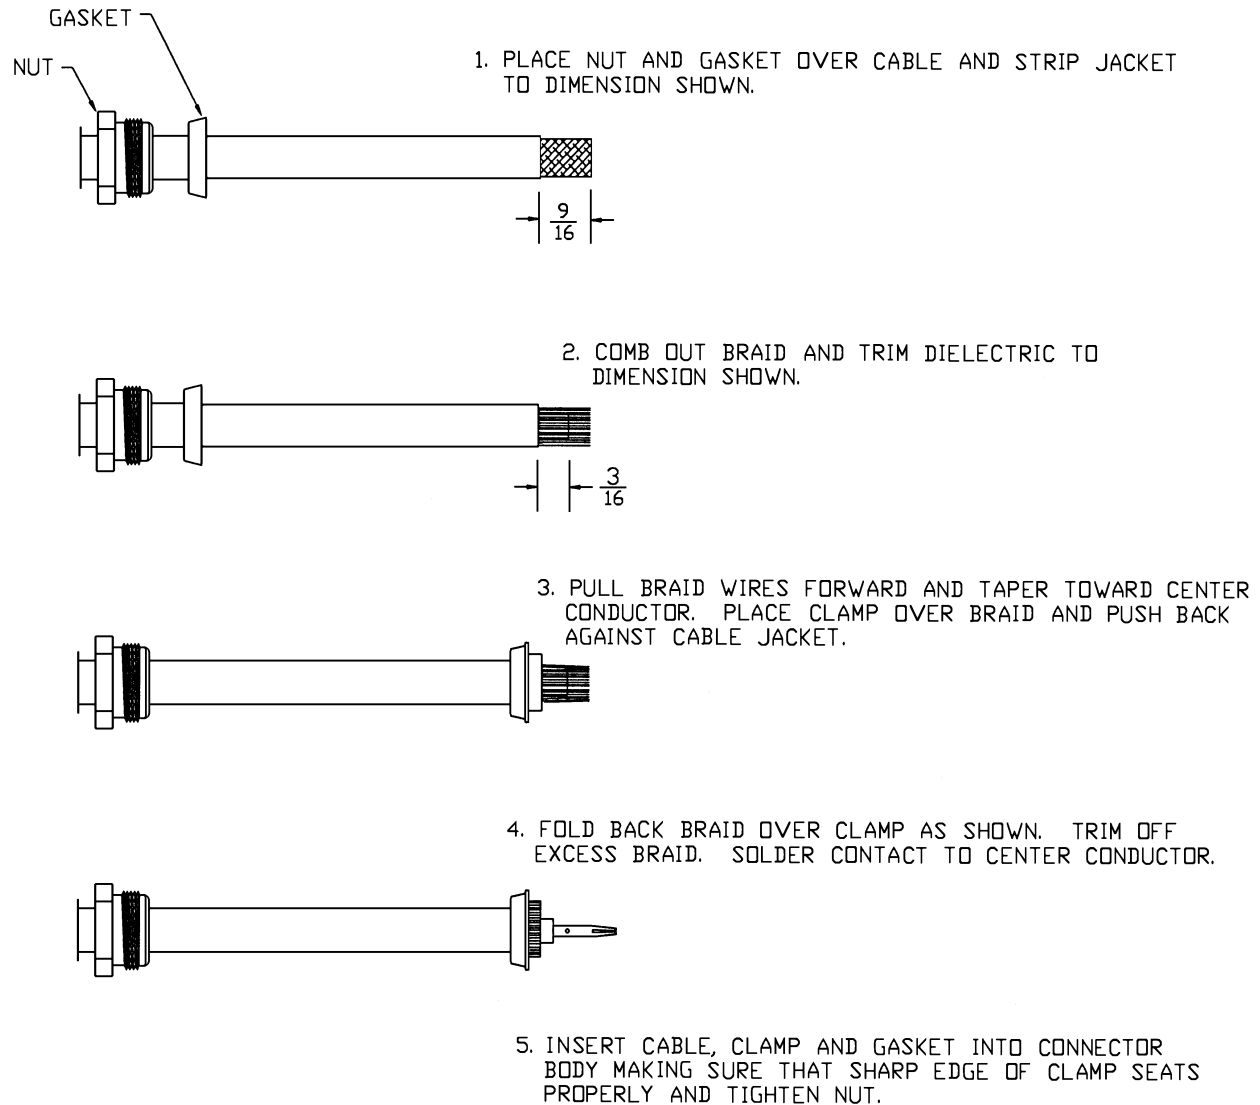

Figure 3-1. Coax Cable Installation
2. Trim the coaxial cable to the desired length and install the BNC connector (330-0087-00) per the cabling instructions in Figure 3-1. If the connector is provided by the installer, follow the connector manufacturer's instructions for cable preparation.